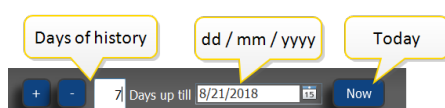

Figure 4-10 History time frame selection
2. In the history windows for projects, errors and events, you can set the time frame by number of days, date, or select the current day, see **Figure 4-10** below.